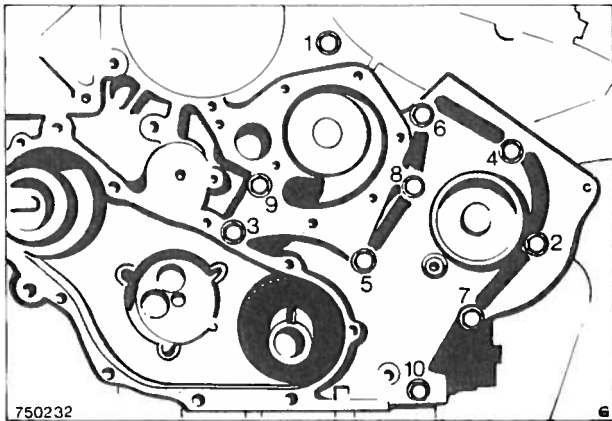

Fig. 31 Bolt tightening sequence for front housing.
13. Ensure that the front housing oilways are clear and fit a new camshaft seal using Tool no. 21-017, ensuring that the seal is positioned such that it runs on an unused part of the camshaft collar (replace collar if required). Fit a new gasket and position the cover to the block using Tool No. 21-017 to centralise the cover around the camshaft and ensure that the bottom of the cover is parallel to the block face. Fit the ten bolts and tighten to the specified torque (see Specifications) in the sequence shown in Fig. 31.